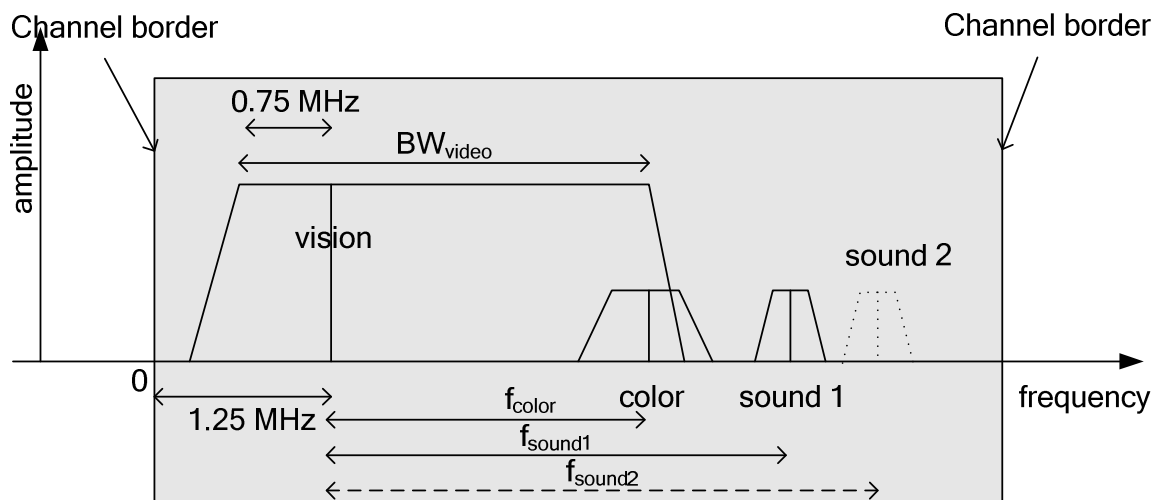

Fig. 2-32 Analog modulated signals in the RF range
For analog modulated TV signals based on PAL, SECAM, and NTSC, Fig. 2-32 shows the situation in principle: the components of the signal, and both frequency and level at the output of a TV transmitter (RF range).
- The vision carrier, indicated in Fig. 2-32 with "vision", is located 1.25 MHz above the channel start. The vision carrier has the highest level and mainly assesses the total power of the channel. It transmits the luminance information and is amplitude modulated. The amplitude modulation is mostly negative (the smaller the luminance signal the larger the vision carrier level), apart from SECAM/L (large vision carrier level combined with a large luminance signal). Only a part (around 0.75 MHz) of the lower sidebands of the vision carrier is transmitted. Therefore it is called "residual sideband modulation". The video bandwidth  $BW_{\text{video}}$  amounts to, depending on the standard, approx. 5 MHz (e.g. PAL B/G) or approx. 4 MHz (e.g. M/NTSC).
- The color carrier, indicated in Fig. 2-32 with "color", is shifted by  $f_{\text{color}}$  to a higher frequency value in respect to the vision carrier. The magnitude of  $f_{\text{color}}$  depends on the standard. The level of the color carrier is by far smaller than that of the vision carrier. Depending on the standard, the signal is analog quadrature amplitude modulated (e.g. PAL B/G) or frequency modulated (SECAM).
- One or two sound carriers, indicated in Fig. 2-32 with "sound 1" and "sound 2", are shifted by  $f_{\text{sound1}}$  or  $f_{\text{sound2}}$  to a higher frequency value in respect to the vision carrier. The magnitude of  $f_{\text{sound1}}$  or  $f_{\text{sound2}}$  depends on the standard. The level of the sound carriers is by far smaller than that of the vision carrier. Depending on the standard, the sound carriers are frequency, amplitude, or NICAM (digitally) modulated. The sound carriers do not need to possess the same modulation. For example, a combination of a frequency modulated carrier with a NICAM modulated carrier is possible.